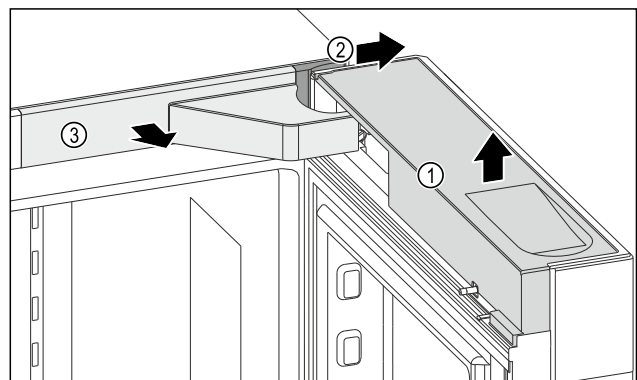

Fig. 10
- ▶ Remove the cover Fig. 10 (1).
- ▶ Remove the cover Fig. 10 (2).
- ▶ Remove the cover Fig. 10 (3).